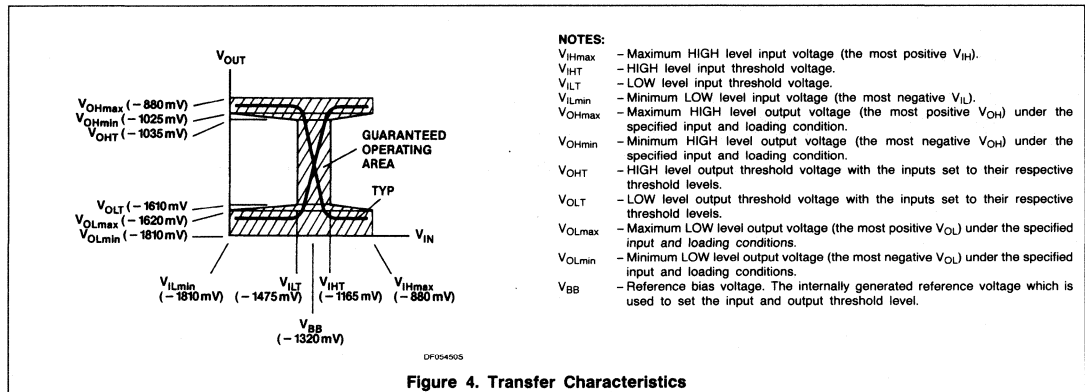

Figure 4. Transfer Characteristics
- The specified limited shown in the DC Characteristics can be met only after thermal equilibrium has been established. Thermal equilibrium is established by applying power for at least 2 minutes while maintaining transverse air flow of 2.5 meters/s (500 linear feet/min) over the device either mounted in the test socket or on the printed circuit board. Test voltage values are in the DC Operating Conditions and defined in Figure 4.